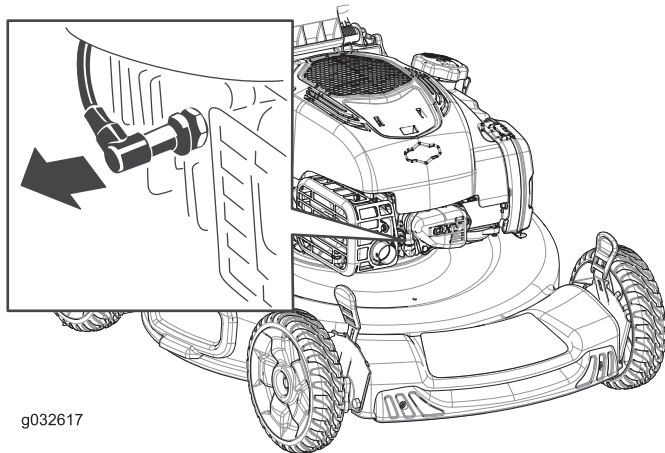

Figure 28
2. Disconnect the spark-plug wire from the spark plug (Figure 28).